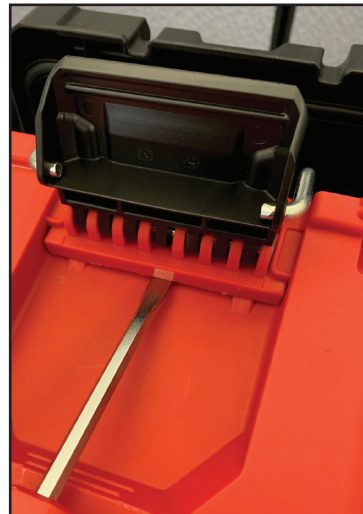

Fig. 2
2. Attach the metal latch to the lid. (Fig.2)